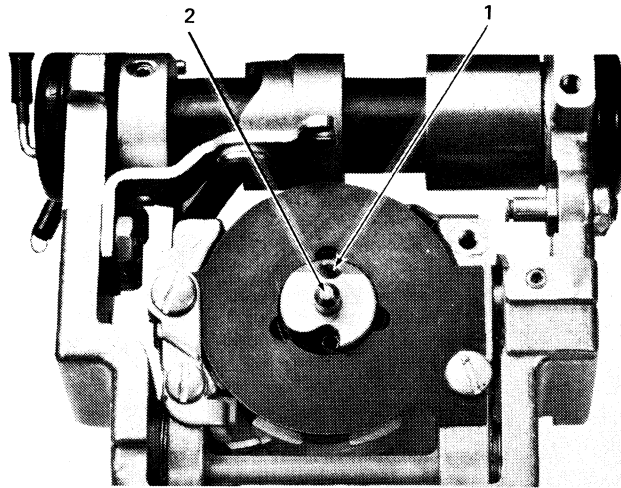

Figure 4-17. Lower Ball Socket and Tilt Ring Removal
8. Loosen the rotate pulley setscrew (No. 1, Figure 4-17).
9. Use the butt end of a small spring hook as a follower to push out the lower ball socket (No. 2, Figure 4-17).